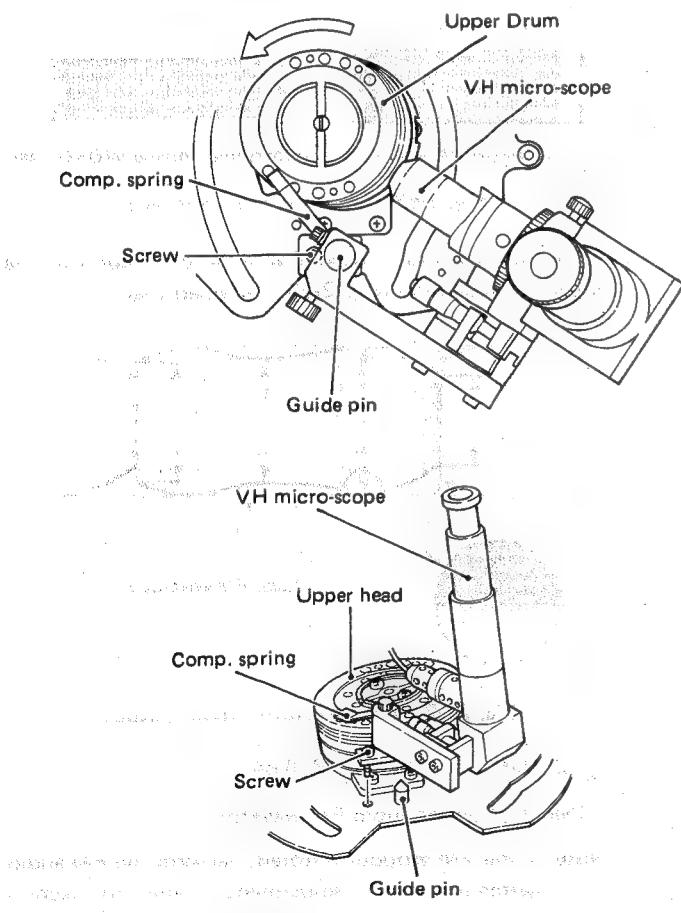

Fig. 2-59 VH microscope setting
1) Set the VH microscope (PUJ42990) on the guide pin as shown in Fig. 2-59.